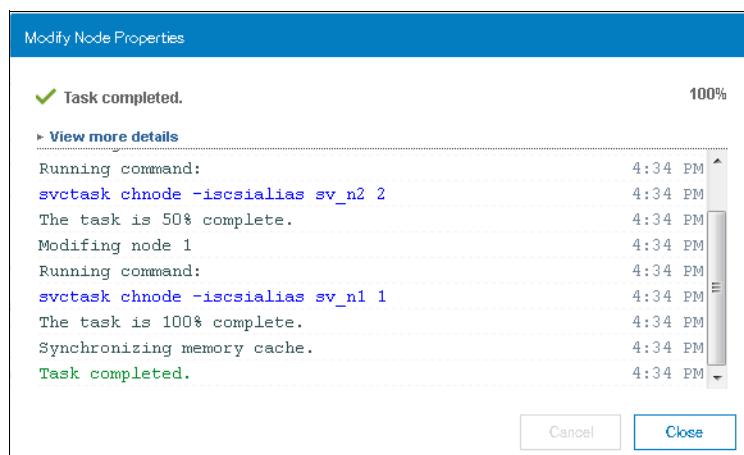

Figure 5-61 Applying all iSCSI changes
- The system waits until you apply the changes that you made. Click **Apply Changes**. All changes are applied, as shown in Figure 5-61.